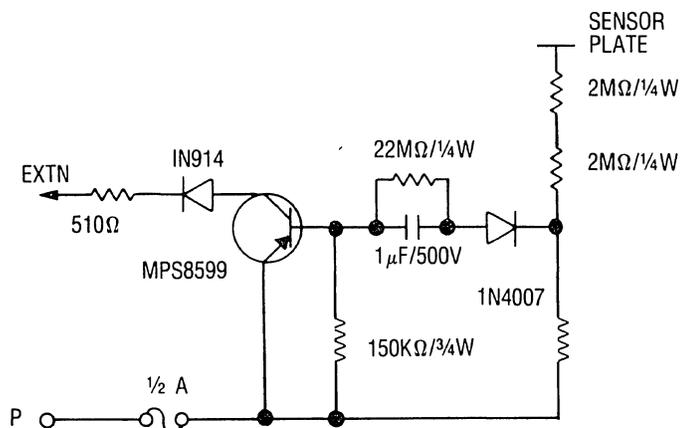

FIGURE 6 — ELECTRONIC EXTENSION
**EXTENSIONS: (Fig. 6)**
All switching and dimming functions can also be implemented by utilizing the slave input. This can be done by either a mechanical switch or the electronic switch in conjunction with a sensing plate as shown in Fig. 6. When the plate is touched, a logical high level is generated at the EXTENSION terminal for both half cycles of the line frequency.